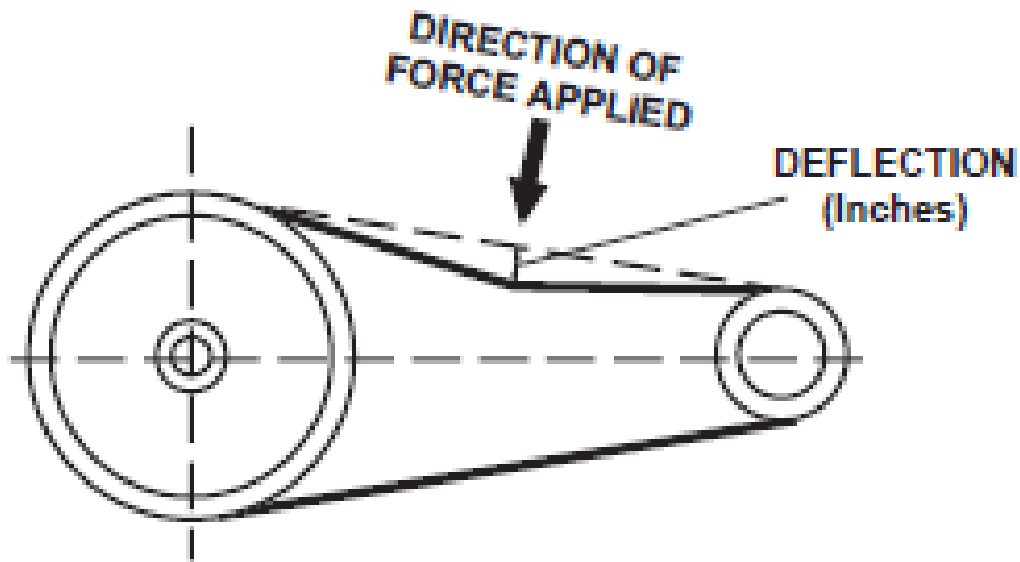

Figure 551-88L-2045_06
- (1) Check V-belt tension and adjust as necessary, (refer to Figure 551-88L-2045_06).